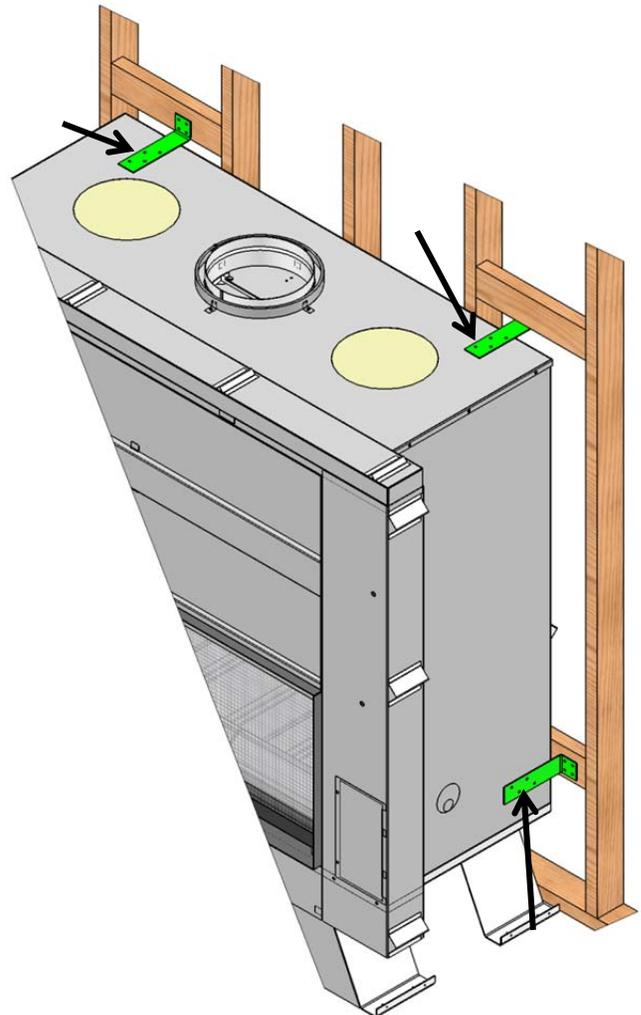

FIGURE 10 ANTI-TIP STABILITY BRACKET INSTALLATION
You **MUST** install two anti-tip stability brackets (F) at the top of the fireplace. They must be solidly screwed to the back wall and to the top of the fireplace. Depending on your specific installation, you can install the anti-tip stability brackets in two different ways. Refer to Figure 10 for examples of installation of the anti-tip stability brackets. Use eight of the large self-tapping screws provided (G) to attach both anti-tip stability brackets to the top of the fireplace casing.